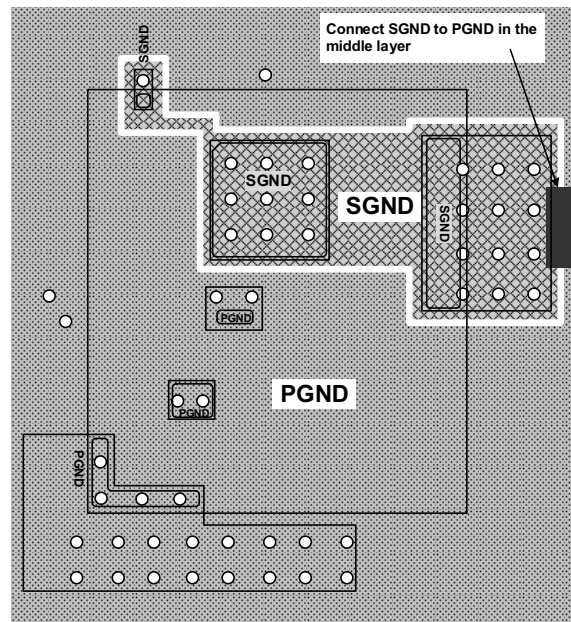

Figure 28. Recommended Layout - Connect SGND to PGND in the Middle PCB Layer After Establishing Separate SGND and PGND
- Establish a separate SGND plane and PGND plane, then connect the SGND to the PGND plane as shown in Figure 28 in the middle layer. For making connections between SGND/PGND on the top layer and other layers, use multiple vias for each pin to connect to the inner SGND/PGND layer. Do not connect SGND directly to PGND on a top layer. Connecting SGND directly to PGND without establishing an SGND plane bypasses the decoupling capacitor at internal reference supplies, making the controller susceptible to noise.